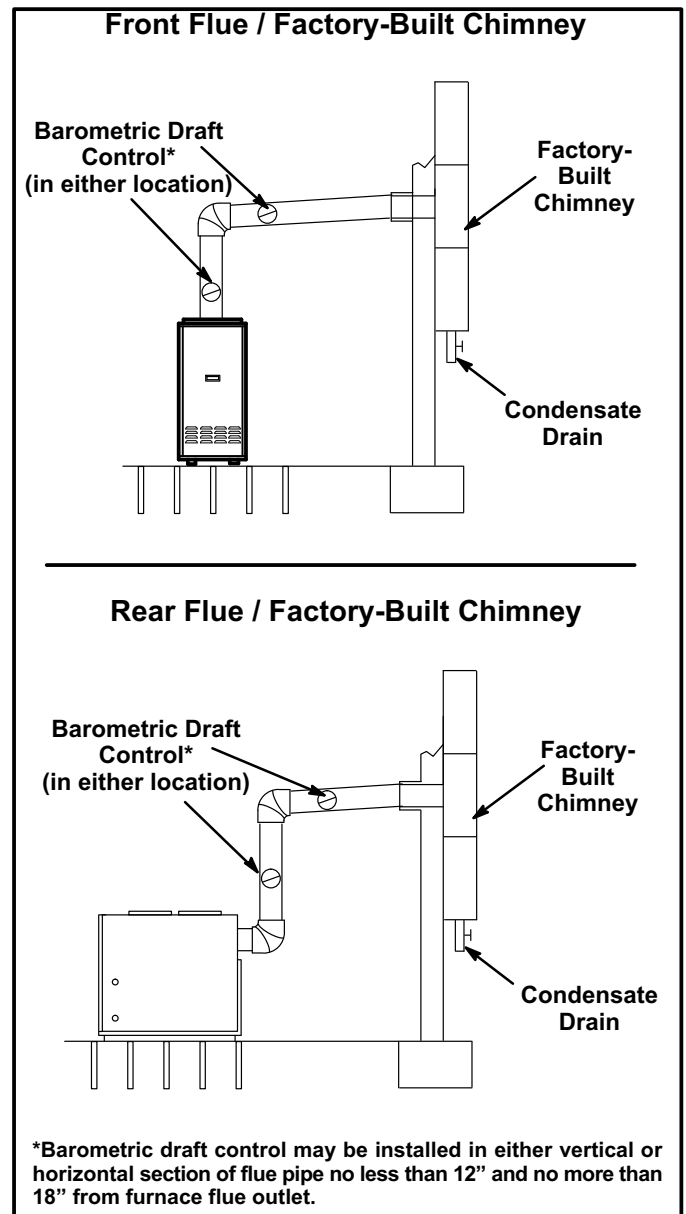

Figure 10
- 15 - All vent pipe run through unconditioned areas or outside shall be constructed of factory built chimney sections. See figure 10.